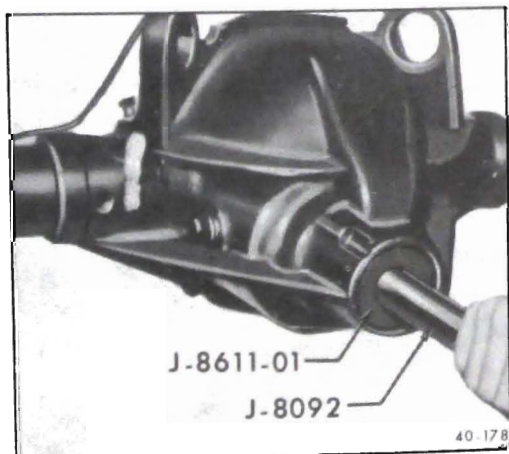

Figure 40-190 - Installing Front Pinion Bearing Outer Race
1. To install the front pinion bearing outer race use Installer J-8611-01 and Drive Handle J-8092. See Figure 40-190.